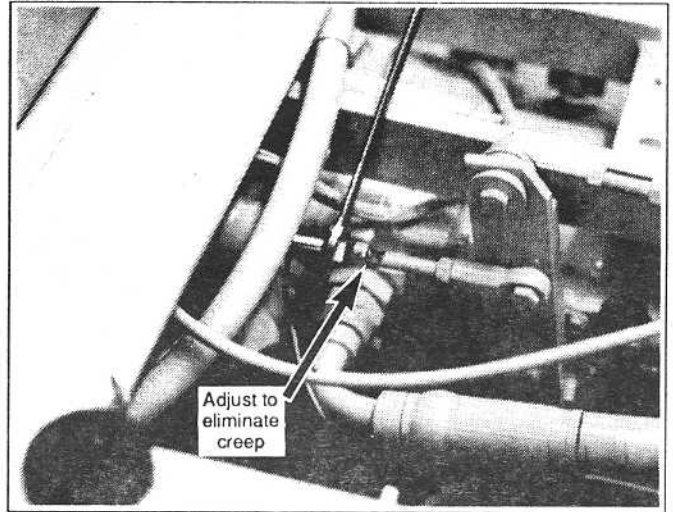

Figure 3-11
5. Adjust the neutral centering by loosening the jam nut where the control rod connects to the neutral centering device and turning the neutral centering device rod in or out until the wheels stop. Tighten the jam nut and cycle the T-Bar forward and back, making sure that the wheels return to a complete stop from both forward and reverse. (See figure 3-11)